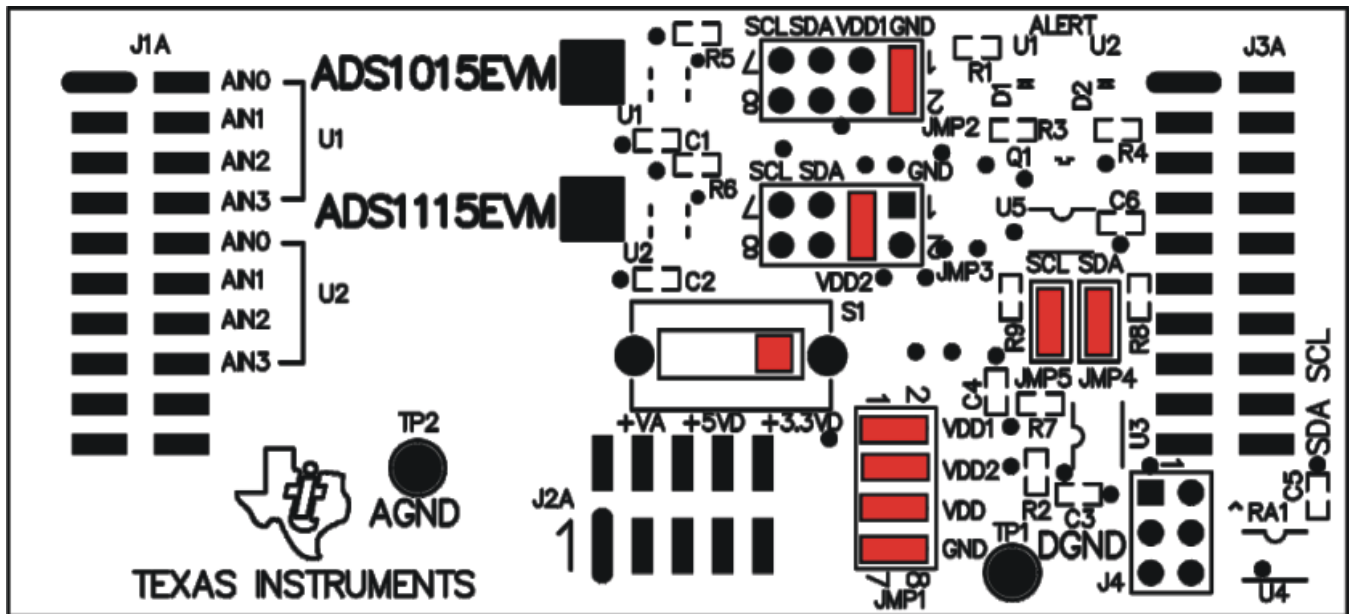

Figure 1. ADS1115EVM Default Jumper Locations
Figure 1 shows the jumpers found on the EVM and the respective factory default conditions for each.
Step 4. Set the jumpers and switches on the ADS1115EVM as shown in Figure 1 (note that these settings are the factory-configured settings for the EVM).